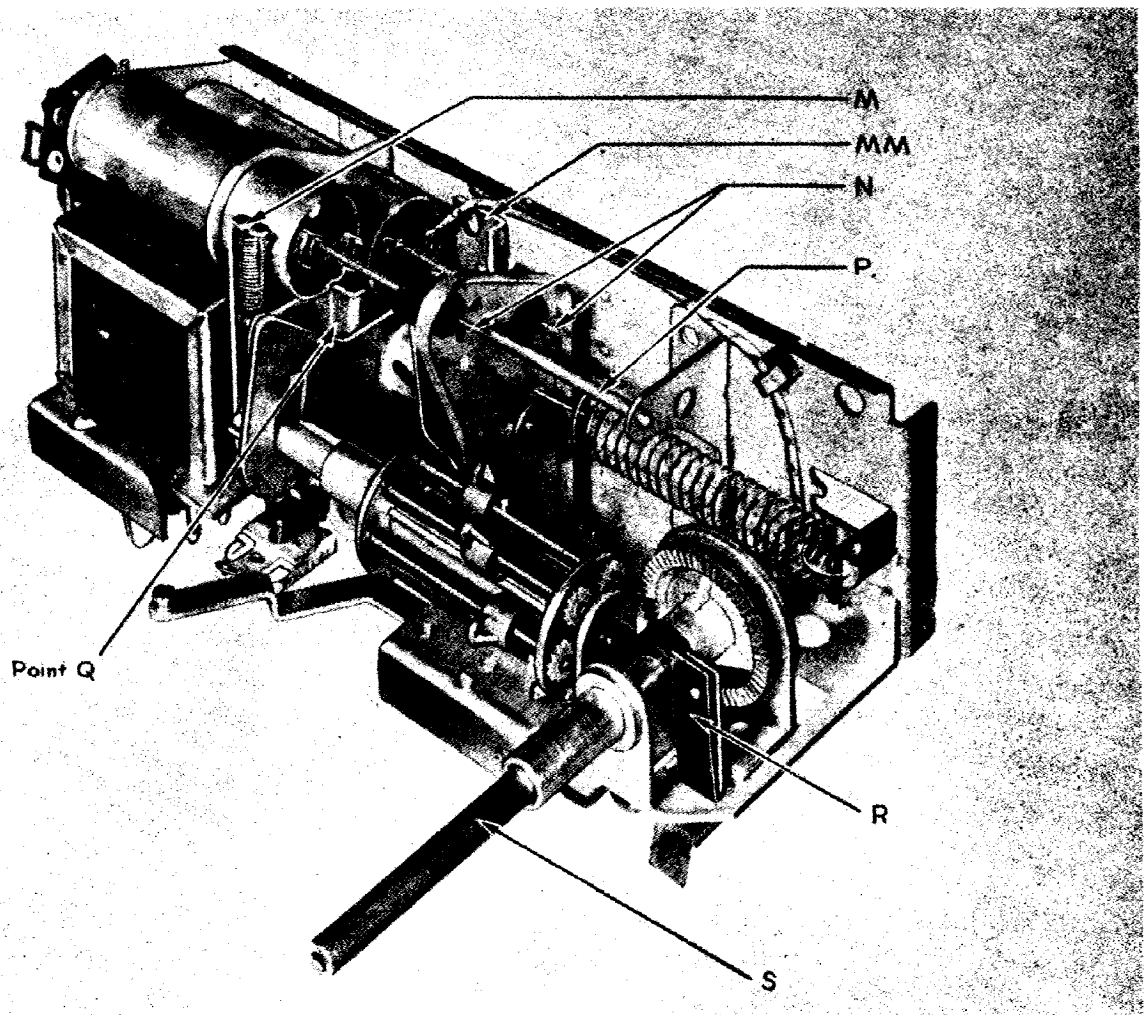
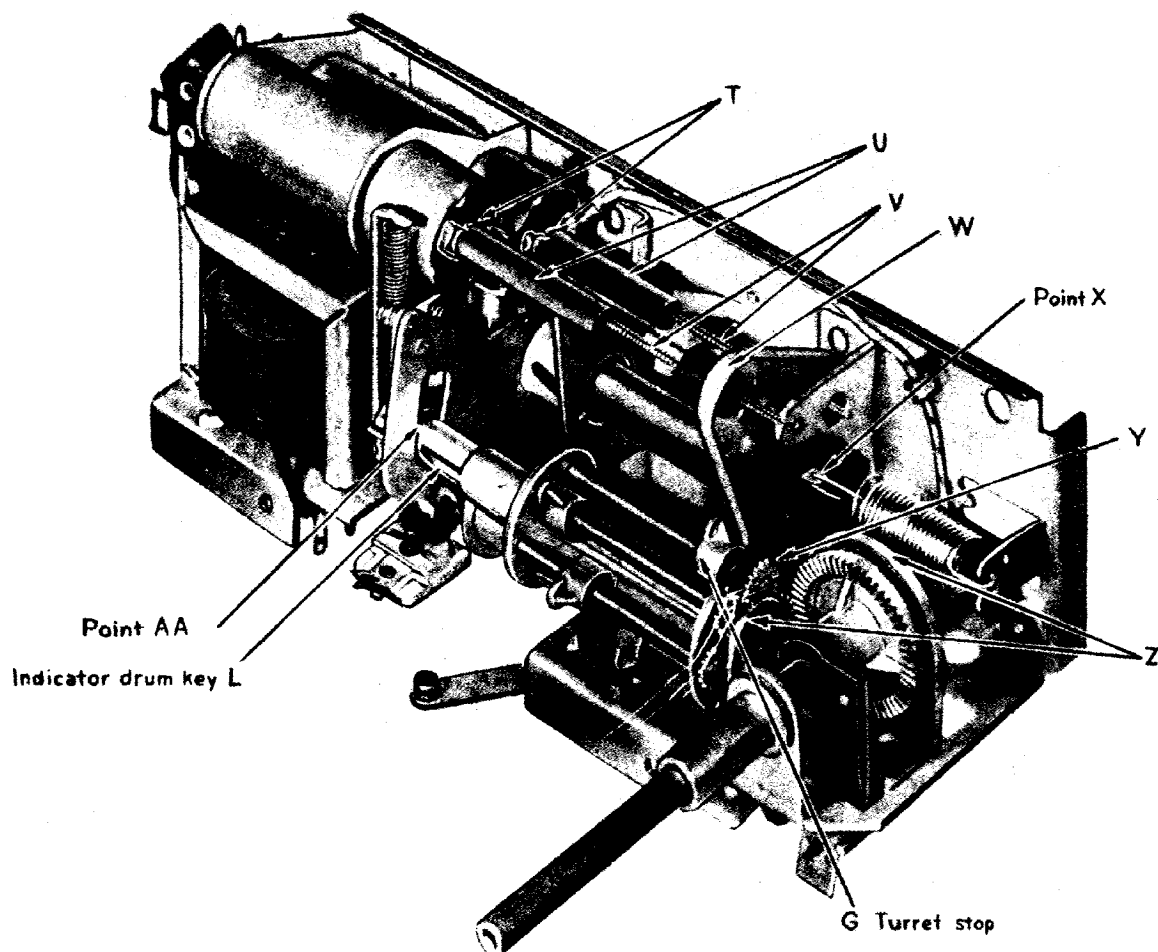

FIGURE 2
FIGURE 3
When the solenoid is energized it forces the plunger of the cross arm and magnet core assembly from the right, or resting position, to the closed position approaching the solenoid (see Fig. 2). The cross arm and magnet core assembly will remain in the closed position until the push button is released.
When the push button is released the solenoid is no longer energized and the cross arm return spring will draw the cross arm to a resting position determined by the setting of the turret stop (see Fig. 3).
Disconnect the carriage return spring at point X (Fig. 3) and operate the cross arm W manually so that the nature of the binding may be readily determined and localized.
- 1—Check the battery voltage which should be 6.3, A lead, safety switch R (Fig. 2), and the wiring to the solenoid to assure sufficient current (approx. 15 amps.) to operate the solenoid.
- 2—The tuning shaft S (Fig. 2) must be all the way in before the bakelite bushing on it will allow the safety switch to make a good electrical contact.
- 4—The tuning cores U must be centered in the coil forms T and the core balancing screws V must be straight to prevent excessive friction from retarding the mechanical action of the cross arm W (see Fig. 3).
- 5—The guide rods P (Fig. 2) must be straight and smooth and must have a slight amount of end play so that they can be turned with the fingers when the cross arm W is in any position of travel.
The most convenient method for determining the reason that causes the cross arm to stick in the closed position or on the return stroke of the change cycle is as follows: Reconnect the cross arm return spring. Then move the cross arm manually to the closed position (Fig. 2) and allow it to return slowly to the point where it sticks. Allow the cross arm to remain in this position while checking the following points for the source of trouble.
- 1—Expansion of the solenoid or a bent front solenoid support bracket, which supports the ratchet lever collar C may cause the collar to bind against the guide rod support bracket MM (Fig. 2). When the ratchet lever binds in this position the spiral slot in C will hold the trip pins E, preventing spring F
- 5—The indicator drum key L may catch in the ratchet lever opening AA (Fig. 3) if the guide rod support bracket MM (Fig. 2) allows the left end of the turret shaft to excessively protrude through the ratchet lever. Bending the support bracket MM with a pair of long nosed pliers or filing the end of the key will correct this condition.
- 6—Too much clearance between the turret gears Y and the main drive gear S (see Figs. 2 and 3) will allow the gear points to meet and bind instead of meshing properly. Insufficient gear clearance will cause the turret to bind also. Loosen the 2 screws under the support bracket Z to set the bracket for correct gear clearance.